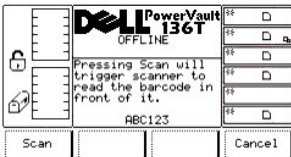

Figure 98. Service > Library > Diags > Fingers > Scanner > Scan > Barcode Label Dialog
- 1 If the button beneath the **Scan** softkey is pressed, the barcode label immediately in front of the scanner is read. See Figure 98.